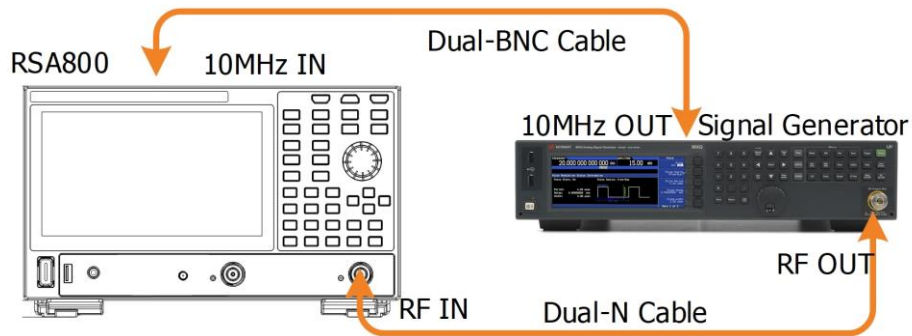

Figure 4.2 SSB Phase Noise Test Connection Diagram
2. Connect the output terminal of the signal generator with the RF input terminal of the spectrum analyzer, as shown in Figure 4.2.